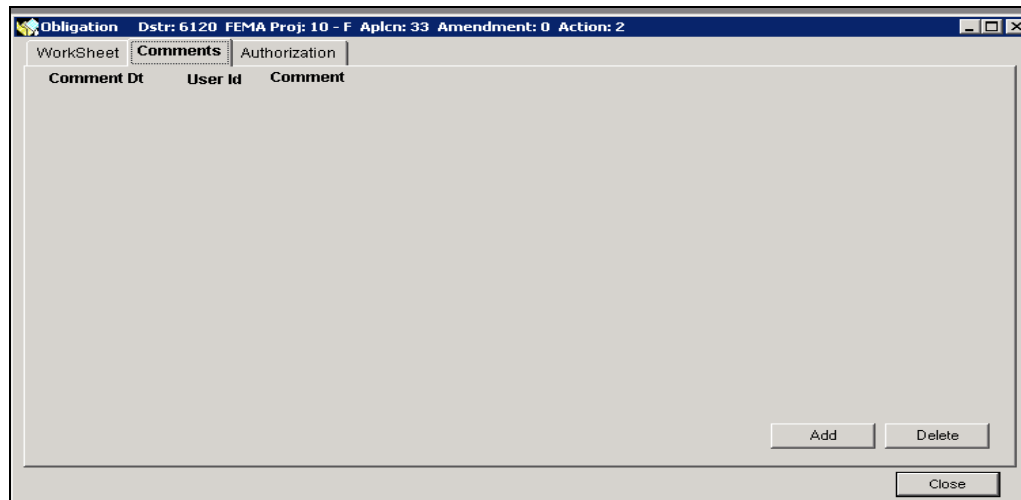

Figure 10-73: Mitigation > Funding > Obligations > Comments Tab
14. Click the **Comments** tab (Figure 10-73).